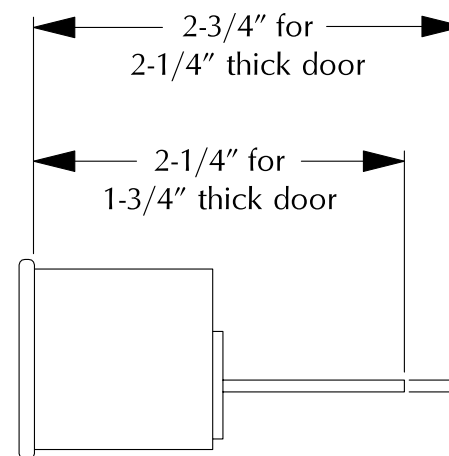

Figure 2. Cut cylinder tailpiece to length.
- A. Cut cylinder tailpiece to length (see Figure 2, other side).